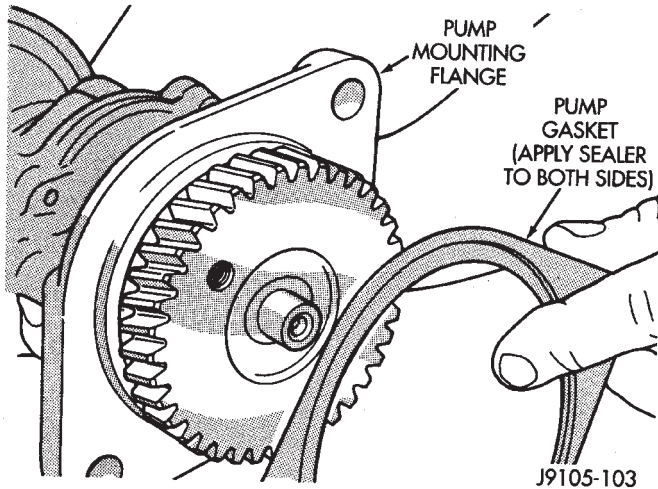

Fig. 115 Pump Mounting Flange Gasket
(12) Verify that pump is seated in adapter and coupling.
(13) Install and tighten pump attaching nuts and washers.
(14) Position new gasket on vacuum pump mounting flange (Fig. 115). Use Mopar Perfect Seal, or silicone adhesive/sealer to hold gasket in place.